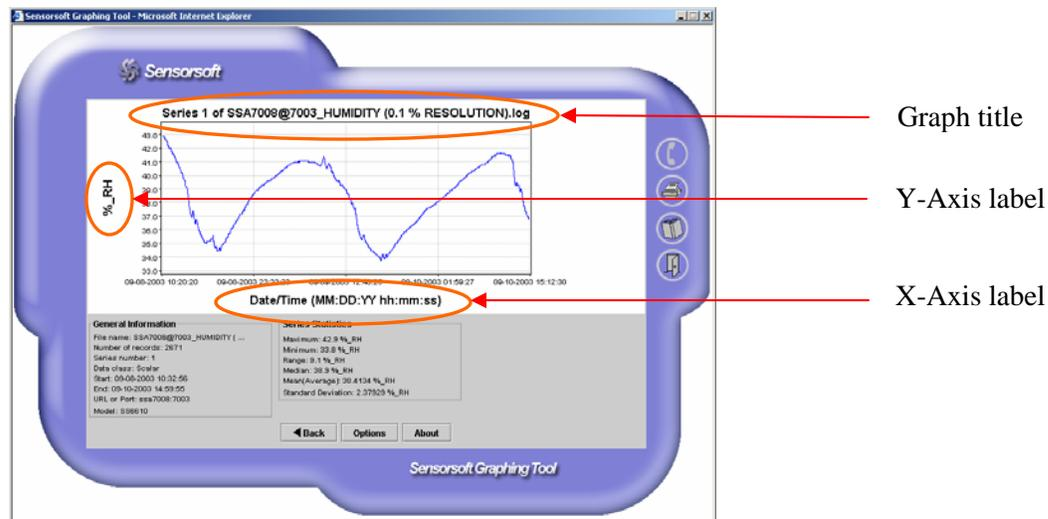

Figure 8
Graph title	This text is located at the top of the graph (see Figure 8). By default, it is set to "Series <series number> of <URL or Port>".
X-Axis label	This text is located at the bottom of the graph (see Figure 8). By default, it is set to "Date/Time (MM:DD:YY hh:mm:ss)".
Y-Axis label	This text is located at the very left of the graph (see Figure 8). If you have graphed a scalar series this text would be the unit of measure, by default. If you have graphed a Boolean series, this text would be blank by default.
1. Make sure the graph is on the screen as shown in Figure 8 above.